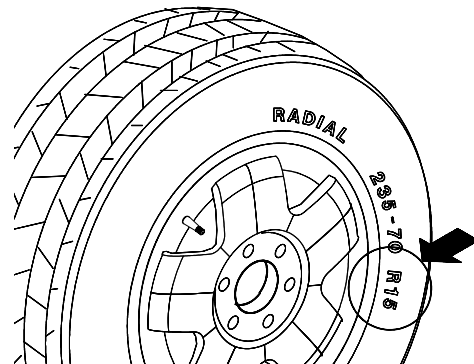

Figure 24
**4.5.3.2 Manual Rim Diameter Entry** - Select the Manual Diameter button (#14 page 9). Read the rim diameter marked on the sidewall of the tire (Figure 24). Enter the measured rim diameter by rotating the function knob until the desired value appears in the right display.